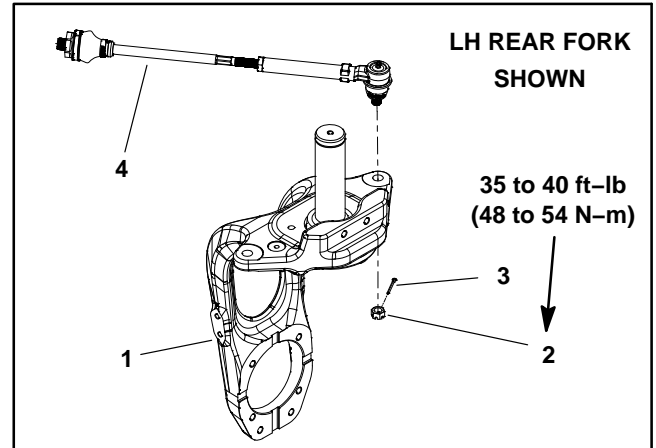

Figure 22
7. Remove cotter pin and slotted hex nut that secure tie rod end to the steering fork (Fig. 22). Separate tie rod end from the steering fork.
8. Remove two (2) cap screws (item 34) that secure bulkhead bracket (item 32) to steering fork.
9. Remove four (4) cap screws that secure wheel motor and brake support to steering fork. Slide wheel motor (with hydraulic lines attached) and brake support from steering fork. Carefully, position wheel motor assembly away from steering fork taking care to not damage hydraulic lines.